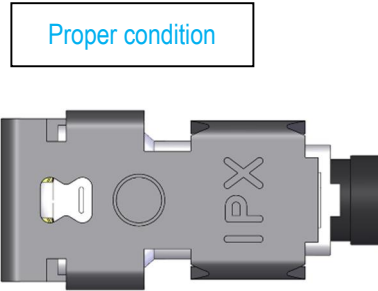

Figure 26 (Locked)
- Slide the LK until the connector passes the far edge of the hole at the LK as shown in Figure 26. Do not apply excessive force to slide the LK.